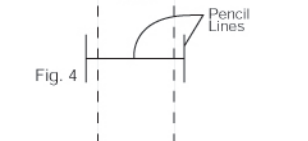

Fig. 4
Drilling a pilot hole is necessary to prevent the wood from splitting. The pilot hole is also required to provide a straight pathway for the screw to travel as it penetrates the stud. A pilot hole should serve to simply **guide** the travel of the screw. (See Figs. 4 & 5)
2.4-Lightly pencil mark two lines on each side of the wall bracket about 2" long. Remove the wall bracket and draw a horizontal line across the center, connecting the two vertical pencil lines. (See Fig. 4)